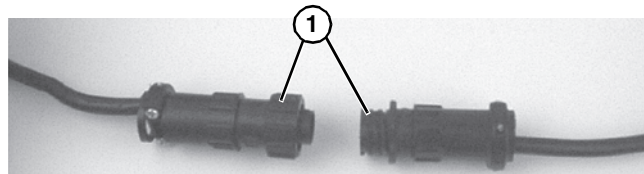

Figure 8
1. For DC variable speed motor, unplug motor cord at disconnect (**Figure 8, item 1**).